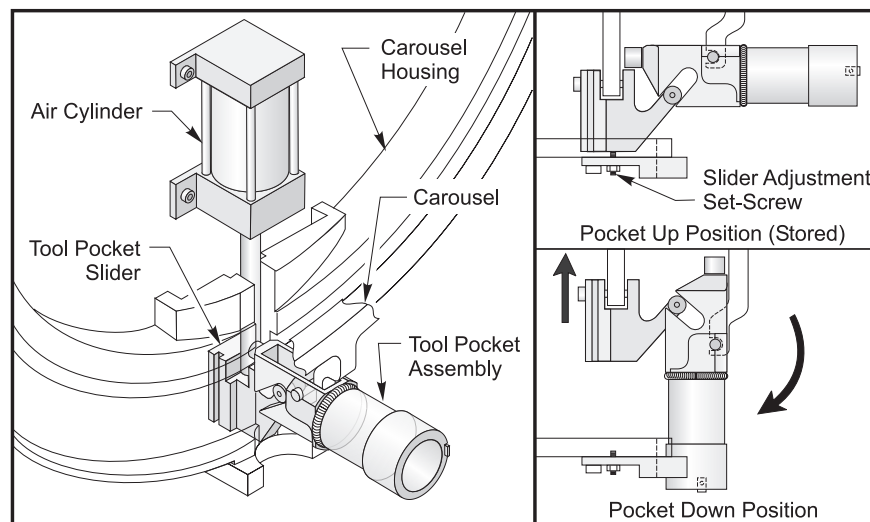

Figure 3.12-15 Tool Pocket Orientation / Set-Screw Adjustment
2. Visually check for mis-alignment (tool pockets should move smoothly). Refer to Figure 3.12-15